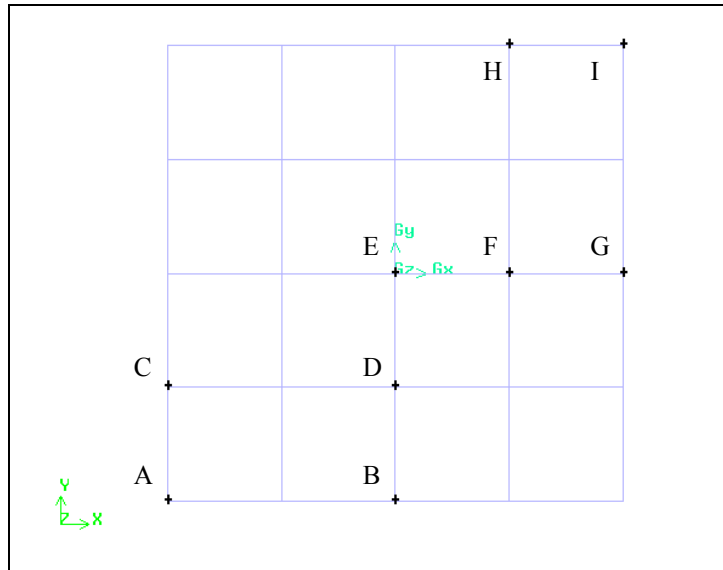

Figure 2-3: Create vertices at grid points
- k) *Ctrl-right-click* the nine grid points shown in Figure 2-3.